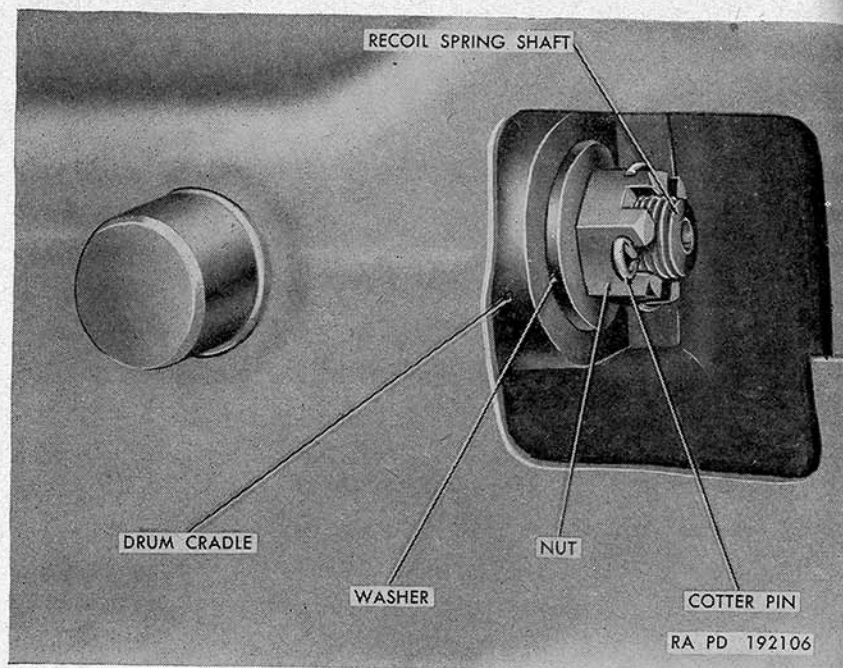

Figure 66. Method of securing drum cradle to recoil springs.
b. Remove cotter pins from recoil spring shafts (fig. 66), and remove the slotted nuts and washers.